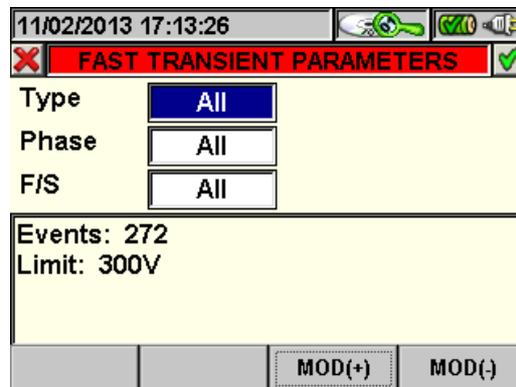

Fig. 163: Spikes parameters
- The **F2** key (or the **PARAM** item on the display) accesses the page which shows the settings made for the Spikes (see Fig. 163)